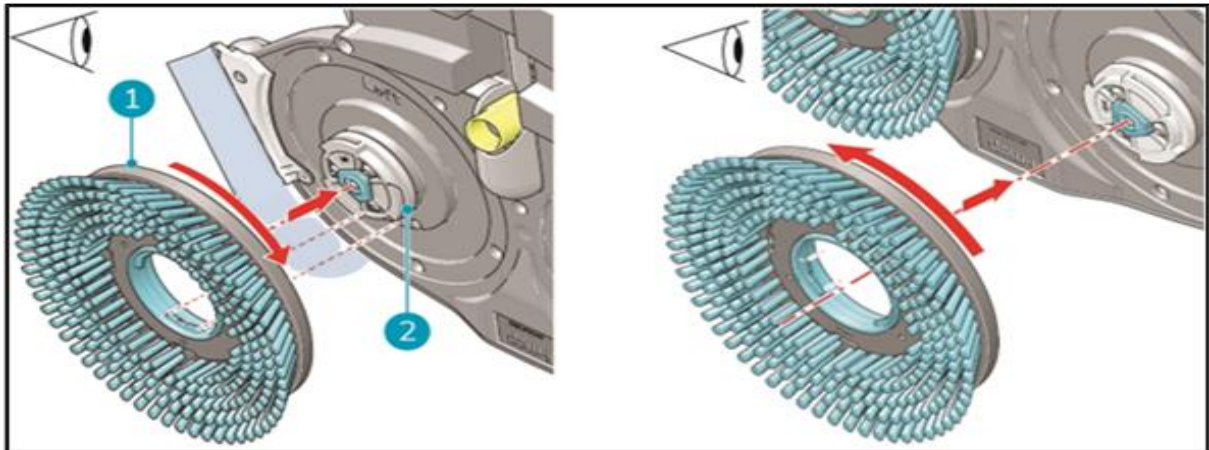

Figure 10
3. Align the left brush (Figure 10, pos 1) with the left motor disk (Figure 10, pos 2). Align the latches and cut-outs in the brush and motor disk.